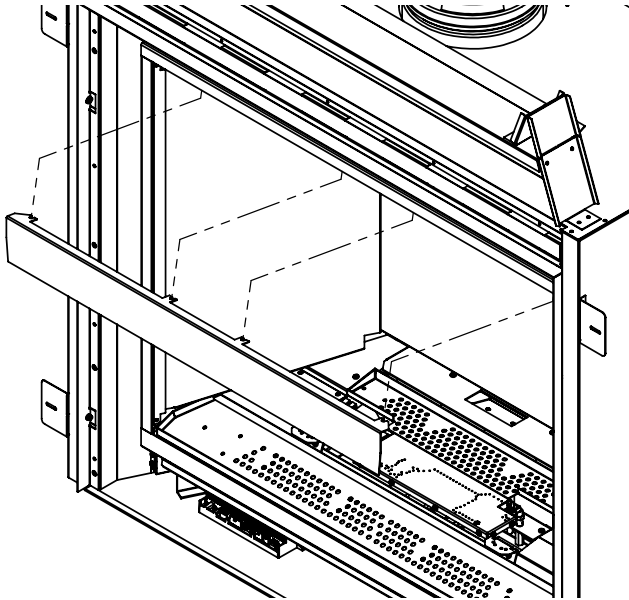

Figure 79: Light Deflector Removal
2. Remove the light deflector at the top front of the firebox by loosening the four (4) retaining screws. The light deflector is slotted. (see Figure 79).
3. Next, remove the liner front edge retainers. There are two (2) screws per side holding the retainers in place.